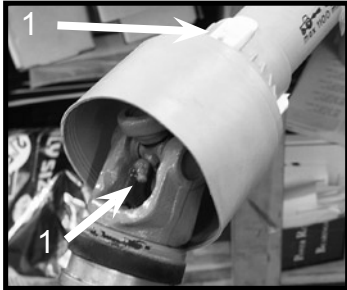

Figure 14-1 FRONT
1. PTO universal joint – front, Two (2) Figure 14-1 *, See arrows.